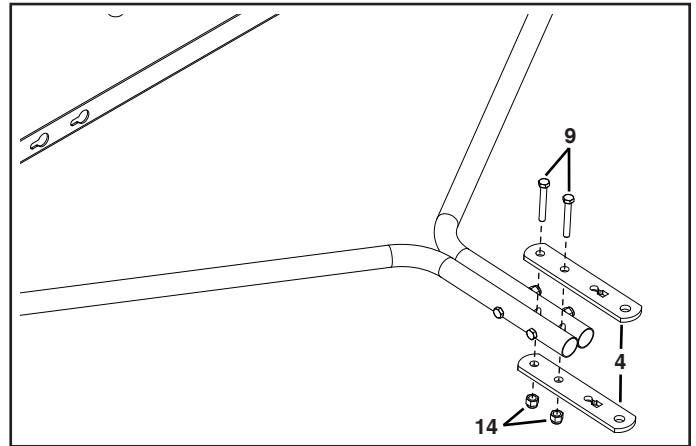

FIGURE 3
8. Attach the hitch brackets (4) to the front of the hitch tubes using two 5/16 x 2-1/4" hex bolts (9) and 5/16" nylock nuts (14). **Do not tighten yet.** See figure 3.